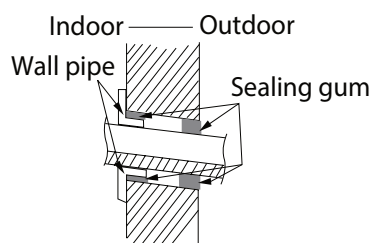

Fig.16
4. Fix the wall pipe. (As show in Fig.16)